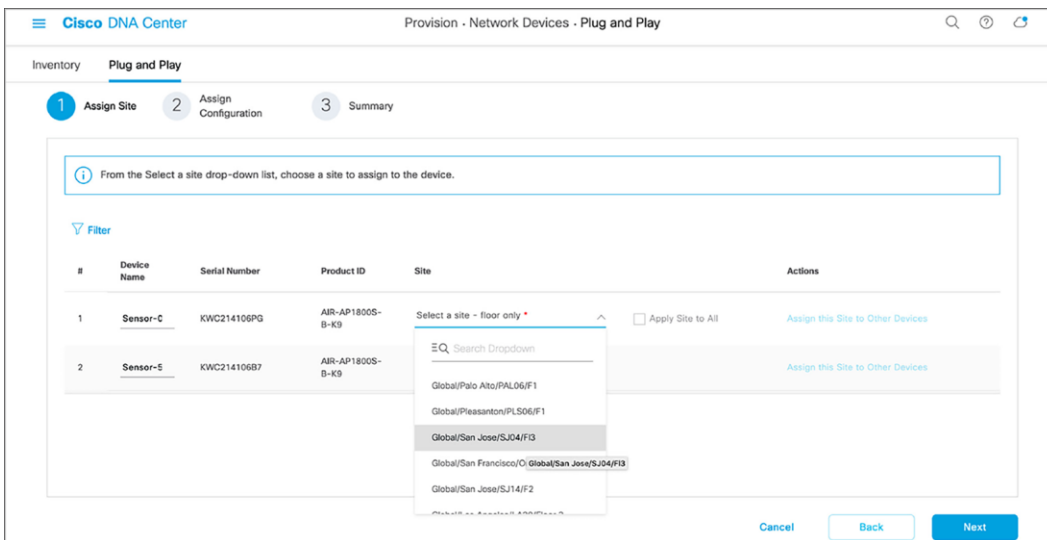

Figure 52.
- Select a site to claim the sensor (Figure 52).